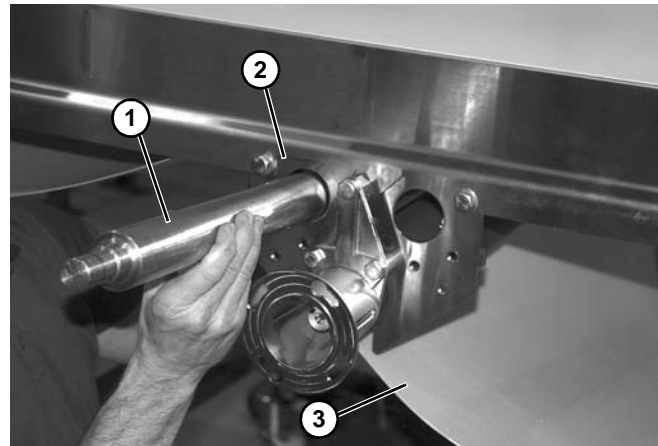

Figure 94
17. Remove two idler spindles (Figure 94, item 1) from center drive plates (Figure 94, item 2).
18. Remove belt (Figure 94, item 3) from center drive module.